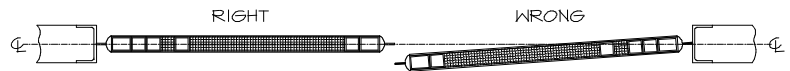

FIG. 4
b. Center panel in opening (Figure 4).